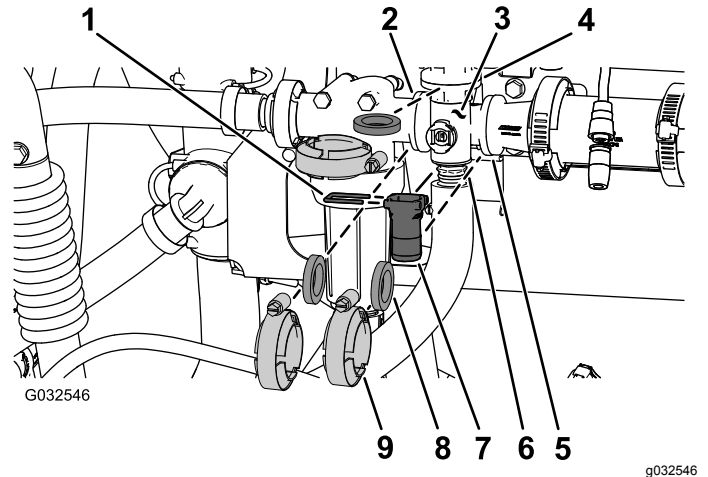

Figure 100
1. Remove the clamps, gaskets, quick connect, and quick-connect pin that secure the manifold for the agitation valve to the agitation-bypass valve, pressure-filter head, reducer coupling, and adapter fitting (agitation-throttle valve) as shown in Figure 100.